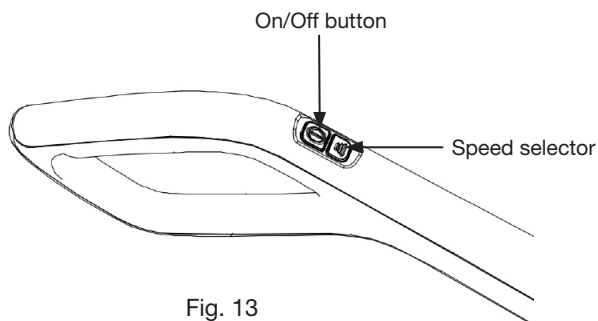

Fig. 13
1. Press the On/Off button on the handle once (Fig. 13). By default, the appliance will come on at the high speed setting and the blue charge indicator will be lit.
2. Press the speed selector button to switch to the slow speed setting (Fig. 13). Press the button again if you want to go back to the high speed setting. On slow, the battery will last for 60 minutes whereas on fast, it will last for 30 minutes.